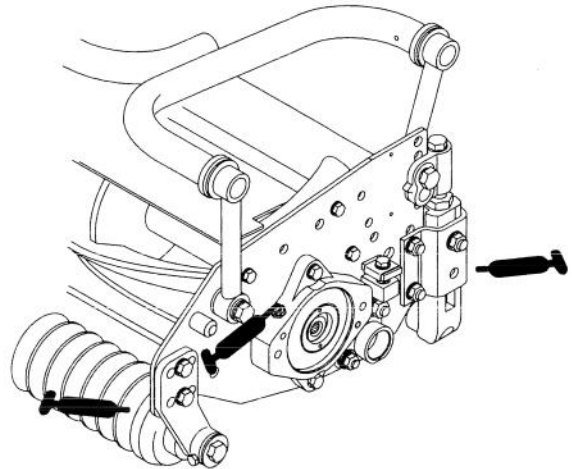

Figure 12
Each cutting unit has (6) grease fittings (Fig. 12) that must be lubricated regularly with No. 2 General Purpose Lithium Base Grease. The grease fitting locations and quantities are: reel bearings (2) and front and rear rollers (2 each)